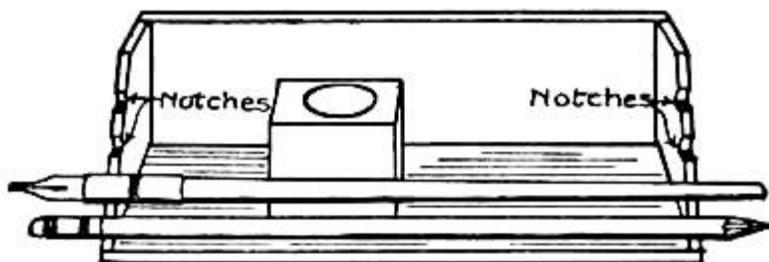

FIG. 56.—Ink-stand and Pen-tray.
**An Ink-stand and Pen-tray**, suitable for your desk, can be made out of a cigar-box, as shown in Fig. 56. Slope the edges with your jack-knife and cut several notches in them for pens and pencils to fit in. The wood should then be sand-papered and oiled.